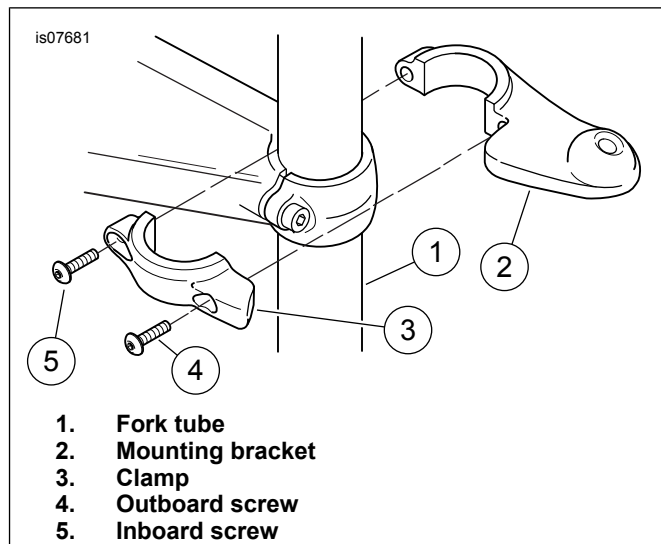

Figure 1. Install Mounting Bracket on Fork Tube (Right Side Shown)
1. See Figure 1. Install the right side mounting bracket (2) on the fork tube (1) using the right side clamp (3) and two hex socket head screws (4-5). Tighten the outboard screw (4) to 8–9 N·m (70–80 **in-lbs**). Tighten the inboard screw (5) to 8–9 N·m (70–80 **in-lbs**).